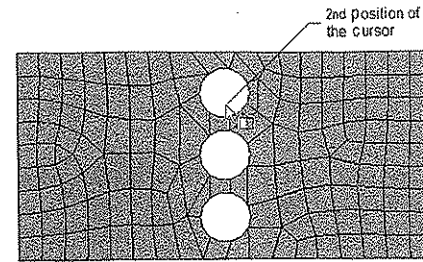
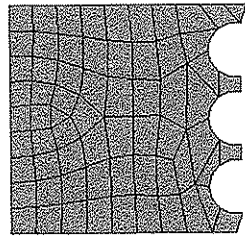

Figure 7-27 Second position of the cursor for creating section planes
Figure 7-28 Sectioned model
- 4. Click, hold, and drag the cursor to a position similar to the one shown in Figure 7-27 and then release; the model is sectioned, as shown in Figure 7-28. Also, the **Slice Plane 1** check box is selected and is displayed in the **Section Planes** window.